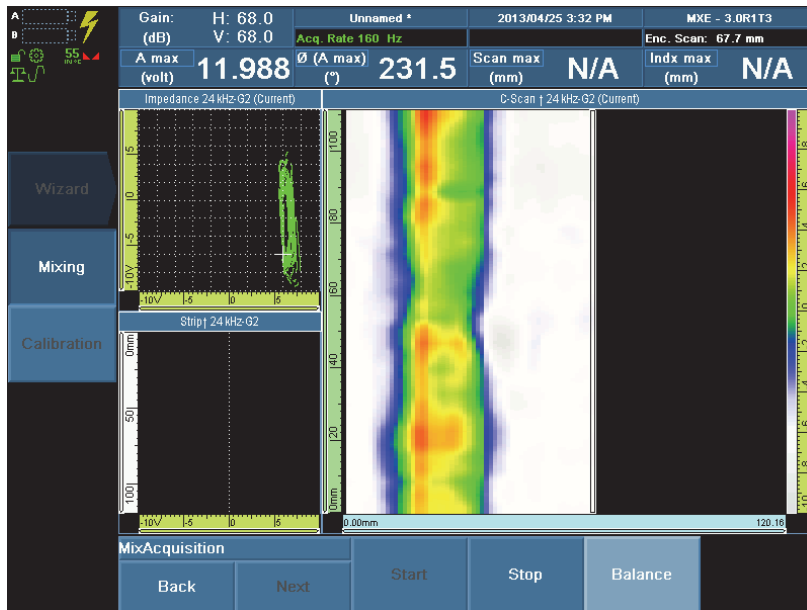

Figure 9-29 Scanning the good fastener in the Mix Acquisition step
- Select **Start**, and then scan the tape (see Figure 9-29 on page 162).